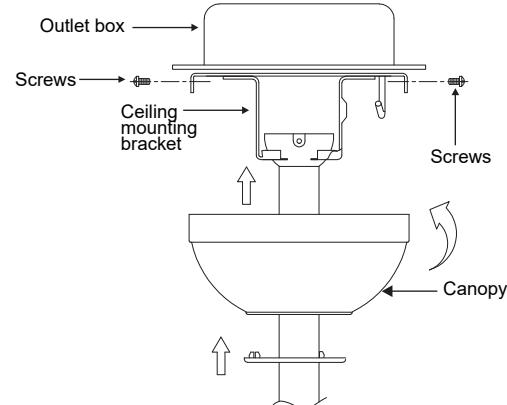

Fig. 15
**Step 2.** Slide the canopy up to ceiling and attach the canopy to the ceiling mounting bracket using 4 screws at the top edge of the mounting bracket. Insert each screw through the canopy mounting hole and into the mounting bracket. Tighten all screws securely. (**Fig. 15**)